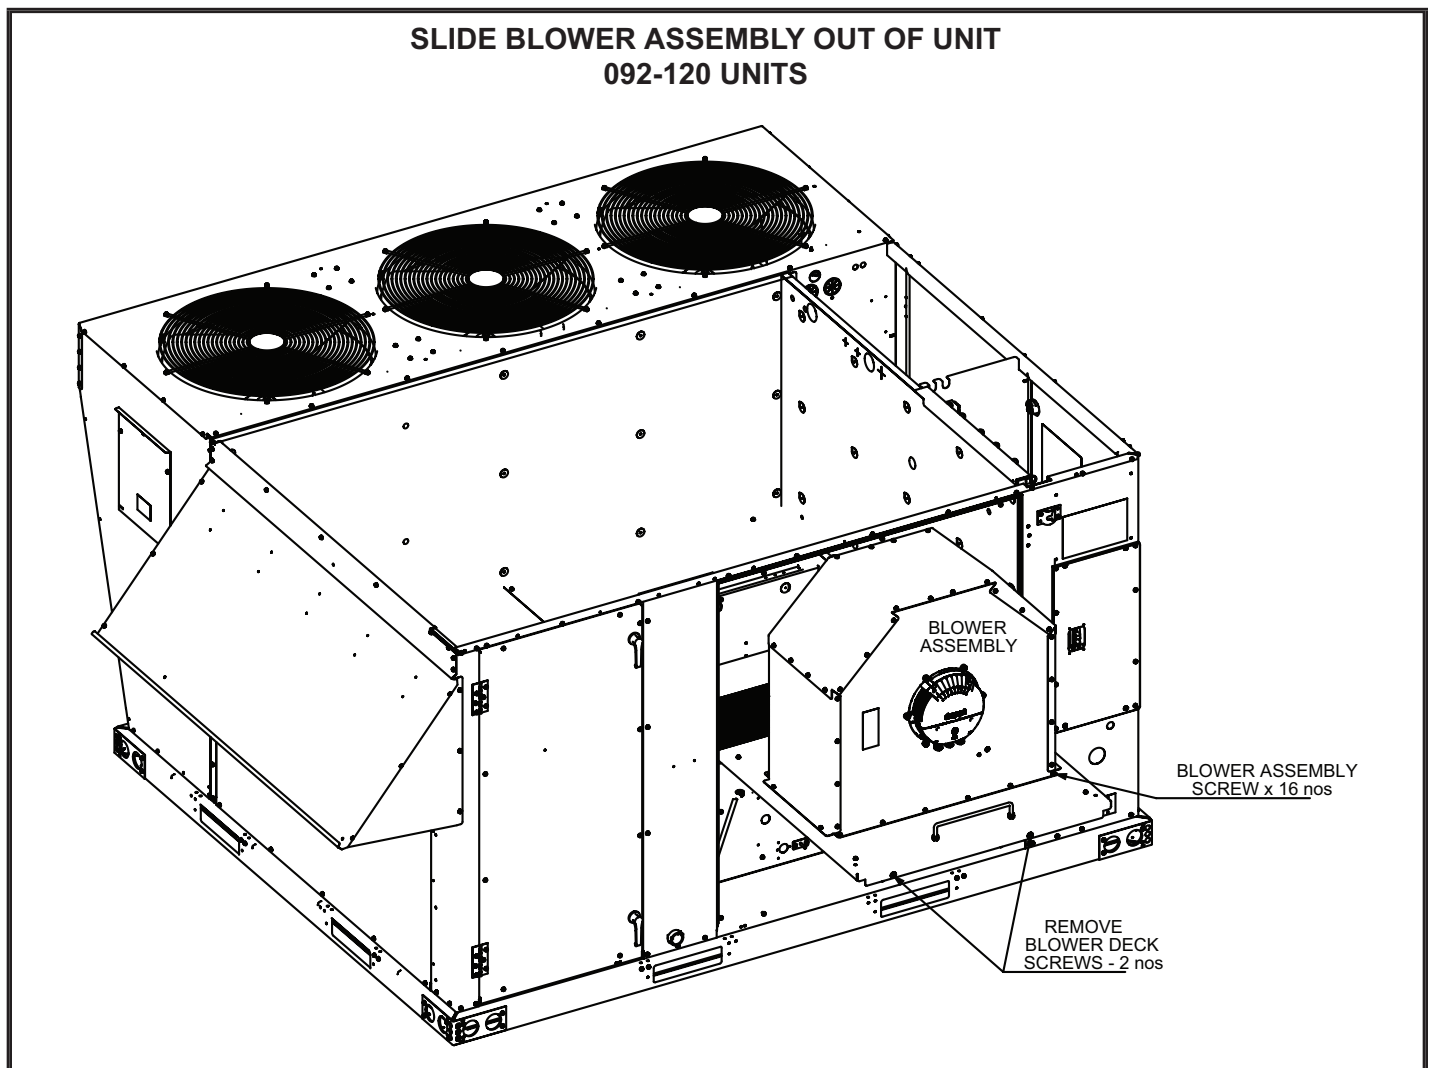
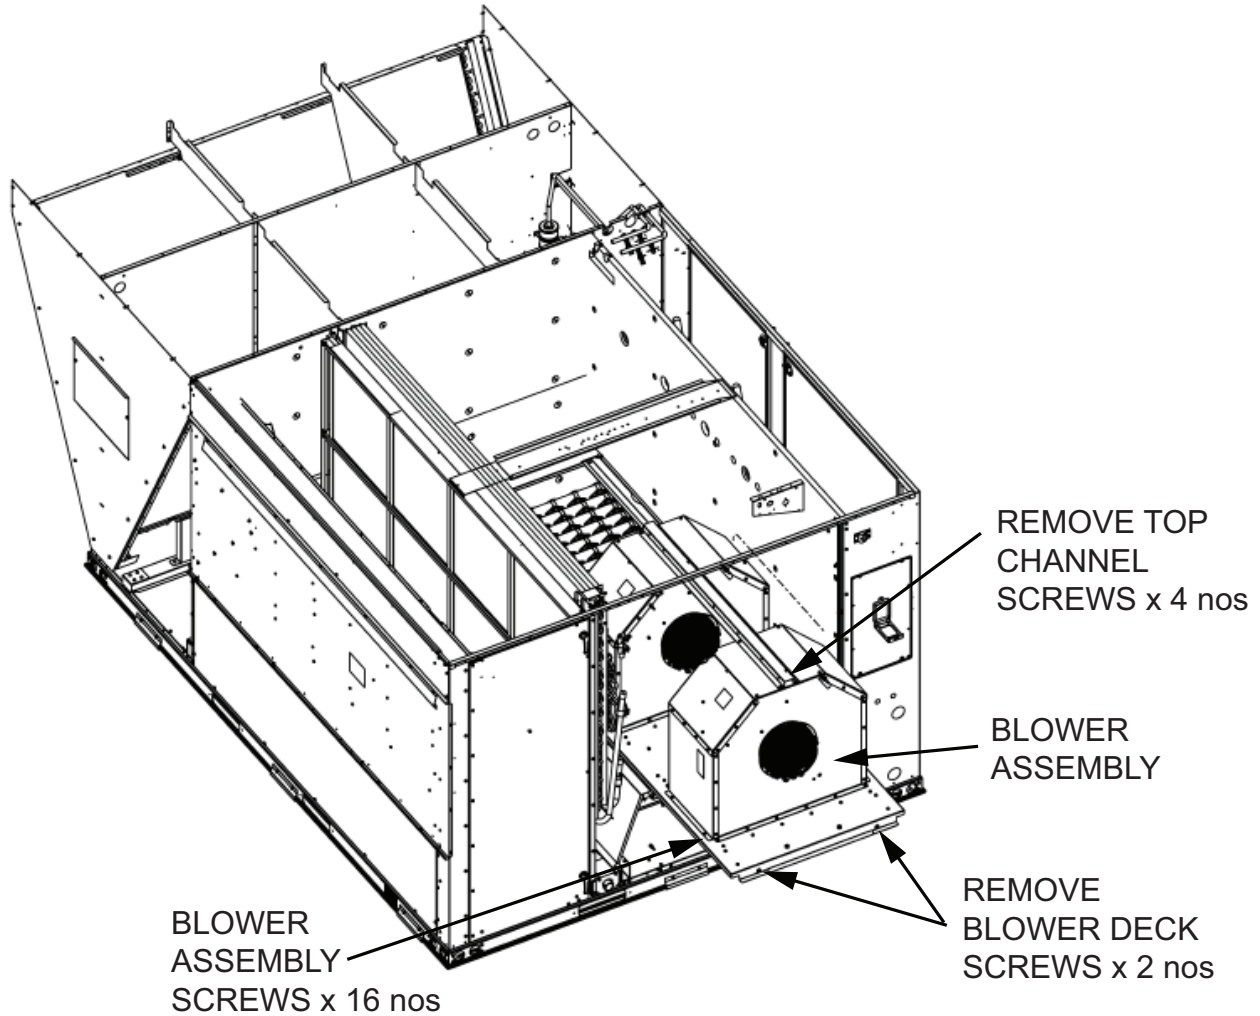

FIGURE 3
FIGURE 4
Remove the 16 screws to remove the Blower assembly from the deck plate. see FIGURE 3.
Remove the Four screws from Top channel and remove the 16 screws to remove the Blower assembly from the Deck plate. see FIGURE 4.
- 2 - Screw the new blower assembly to the blower deck and secure the blower deck to the unit using 2 screws. See FIGURE 3 for 092-120 units and FIGURE 4 for 180-240 units.